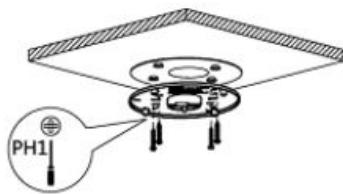

Figure 2-3
**Step 3** If using the included mounting plate, place it on the installation surface and screw in the philips head screws through the mounting plate and into the anchor screws. Skip this step if not using the mounting plate. See Figure 2-3.